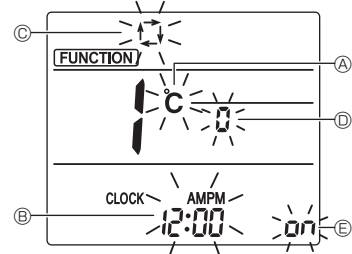

Fig. 5-11
The Screen display setting screen will be displayed. (Fig. 5-11)
- Press the **UP** button ④ to change the function No.
5.12.2. Changing the temperature unit (Fig. 5-11 Ⓐ)
- Press the **TEMP** button ⑤.
- Each time the **TEMP** button ⑤ is pressed, the setting switches between **°C** and **°F**.
5.12.3. Changing the time display (Fig. 5-11 Ⓑ)
- Press the **TIME** button ⑥.
- Each time the **TIME** button ⑥ is pressed, the setting switches between **12:00** and **24:00**.
5.12.4. Changing the AUTO mode (Fig. 5-11 Ⓒ)
- Press the **MODE** button ⑦.
- Each time the **MODE** button ⑦ is pressed, the setting switches between **Ⓐ** and **Ⓑ**.
5.12.5. Changing the pair No. (Fig. 5-11 Ⓓ)
- Press the **UP** button ④.
- Each time the **UP** button ④ is pressed, the pair No. 0-3 changes.